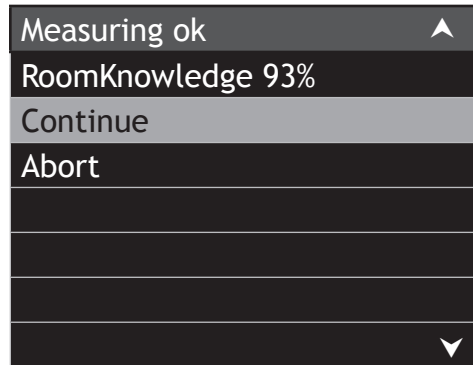

Figure 41
10. When the second room position measurements have been completed, the RoomKnowledge Data is now at 93%. Refer to figure 41.